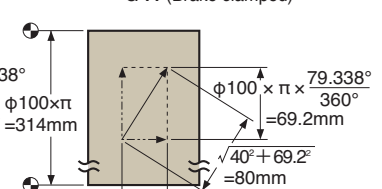

Fig. 2
1. Make a development elevation like Fig.2 to calculate the vector.
2. Give feed in lead cutting (cutting feed from ① to ②).....e.g. 200 mm/min (depend on work piece materials).